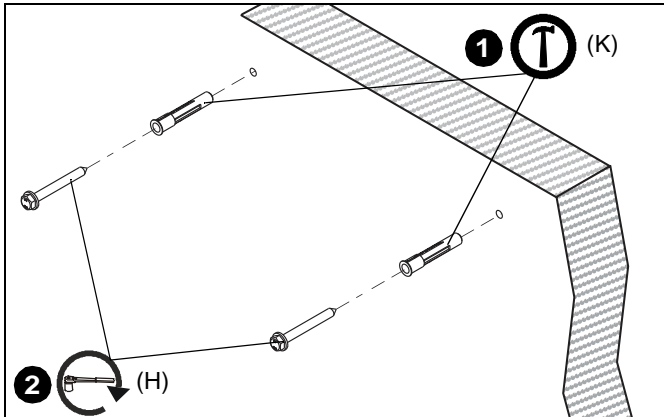

Figure 7
1. Install one UX10x60R anchor (K) into each pilot hole using a hammer, making sure that the anchor is flush with the wall. (See Figure 7)
2. Use one 5/16" x 2-3/4" lag bolt (H) through product into each anchor in wall.